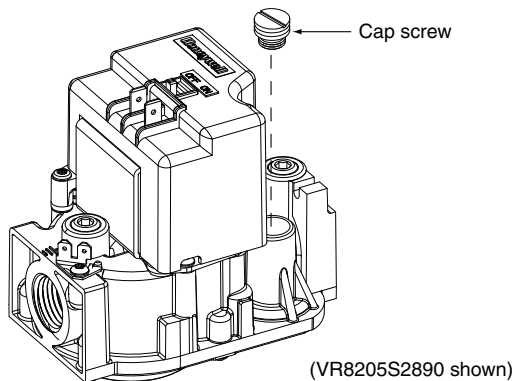
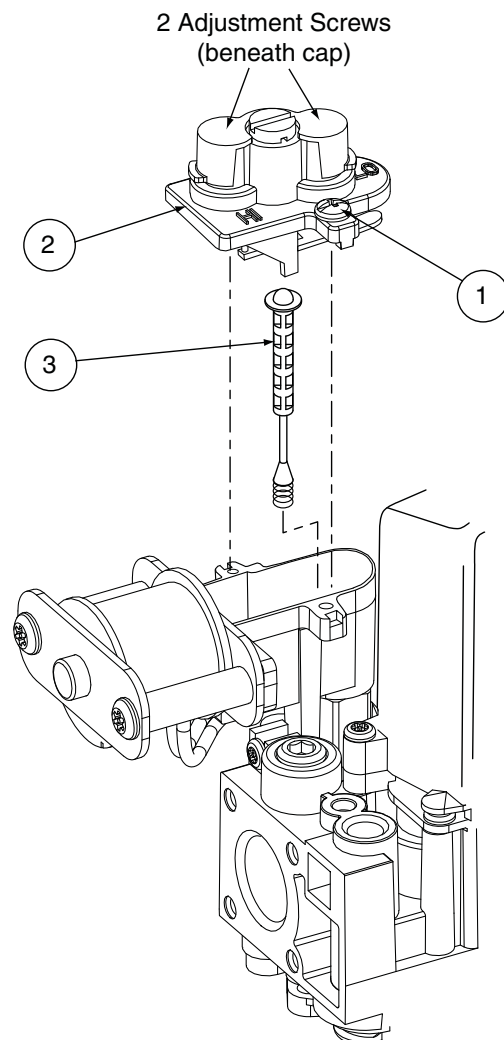
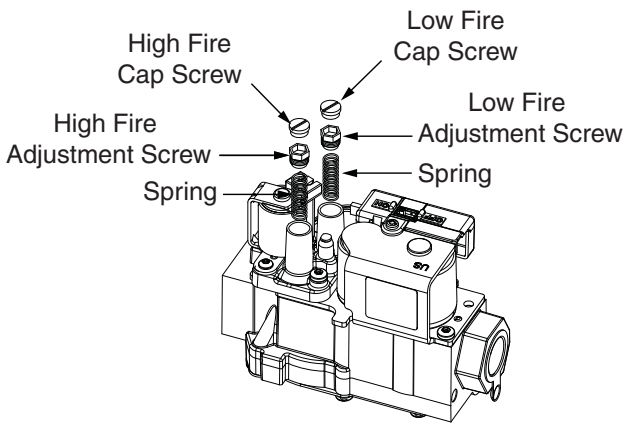

Figure 2. Cap Screw Removal
Figure 4. Spring / Stem Assembly Removal
Figure 5. Pressure Regulator Spring & Adjustment Screw Removal
1. Remove the cap screw from the gas valve as shown in Figure 2.
1. Remove two screws (1) securing the pressure regulator cover assembly (2) to the gas valve. See Figure 4.
2. Remove the pressure regulator cover assembly (2) from the gas valve.
3. Remove and discard the existing stem/spring assembly (3) from the gas valve.
4. Install the replacement stem/spring assembly (3) from the conversion kit.
5. Reinstall the pressure regulator cover assembly (2) onto the gas valve.
6. Install the two screws (1) and tighten.
1. Remove the HIGH fire cap screw. See Figure 5.
1. Single stage gas valve: Remove the cap screw from the top of the gas valve regulator. See Figure 2 (page 4) for VR8205S2890 or VR8215S1206 models.
2-stage gas valve: For VR8205Q2381 models, remove the plastic cap covering the adjustment screws (Figure 4 page 4). For VR9205Q1028 models, remove the cap screw (Figure 5, page 5).
2 is achieved. See Figure 2 for VR8205S2890 or VR8215S1206 models. See Figure 4 for VR8205Q2381 models or Figure 5 for VR9205Q1028 models.